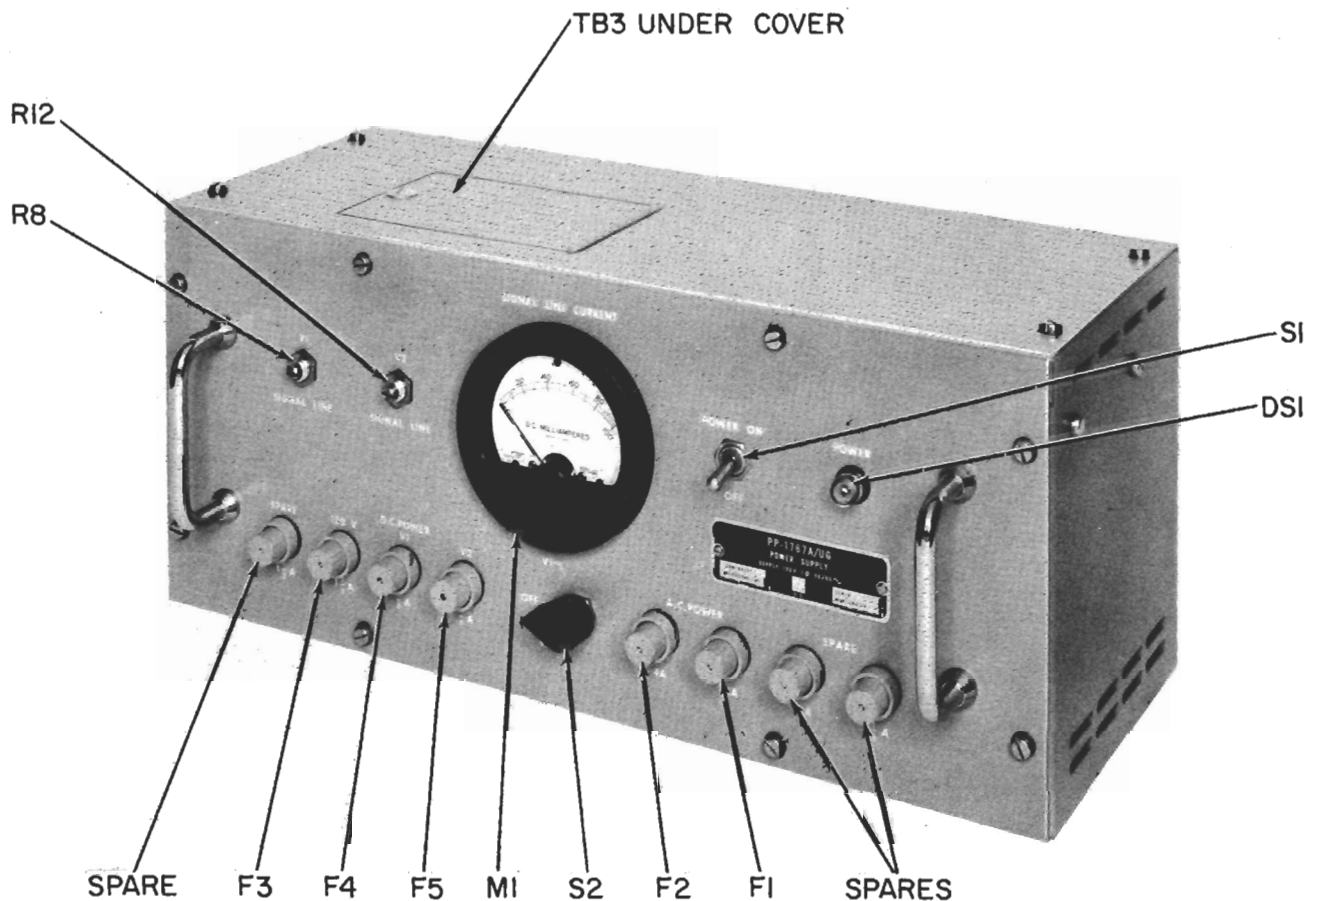

Figure 3-1. Power Supply PP-1767A/UG, Front Panel View
b. The output currents for signal lines V1 and V2 may be adjusted similarly by controls R8 and R12, respectively (figure 3-1). Turn switch S2 (figure 3-1) to the line being monitored (V1 or V2) and rotate the appropriate control (R8 or R12) until the desired current is obtained. (To adjust R8 or R12, it is first necessary to loosen the locking nut.) Return switch S2 to the off position after the adjustments are complete.
Figure 3-1 shows the location of the power line switch, power light, meter, adjustment controls, and fuses.
Figures 3-1, 4-1 and 4-2 show the location of all parts. Figures 4-3 and 4-4 are the schematic and wiring diagrams, respectively. Circuit continuity and test points may be determined readily from these figures.